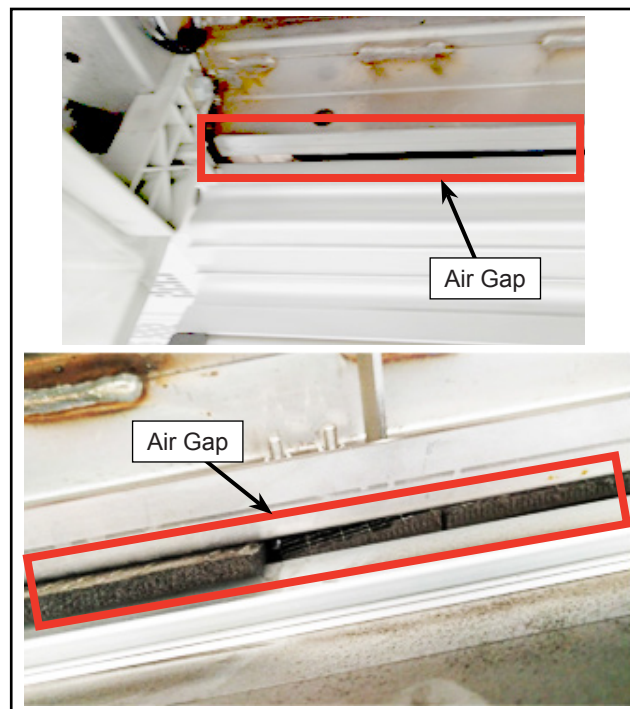

Figure 8 - Location of Air Gaps
- 1.19. Identify the air gaps between the structure and the baselight track (see Figure 8).